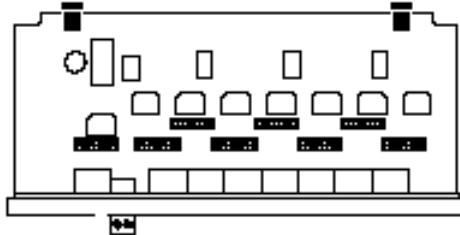
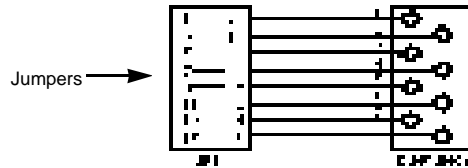

Figure 2. Model 457B PC board, showing jumper block locations
Figure 3. Jumper block, showing two jumpers and pin correspondence to RJ-45
- On the Model 457B PC board (see figure 2, below), locate the jumper blocks corresponding to each RJ-45 port. They are labeled JP1 - JP8. As figure 3 (below) shows, each jumper block has 16 pins and two jumpers.